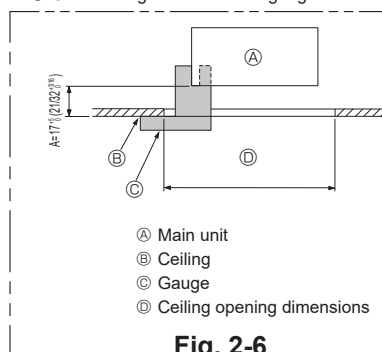

Fig. 2-6
- Make sure that A is performed within 17-22mm, 21/32 to 27/32 in. Damage could result by failing to adhere to this range. (Fig. 2-6)